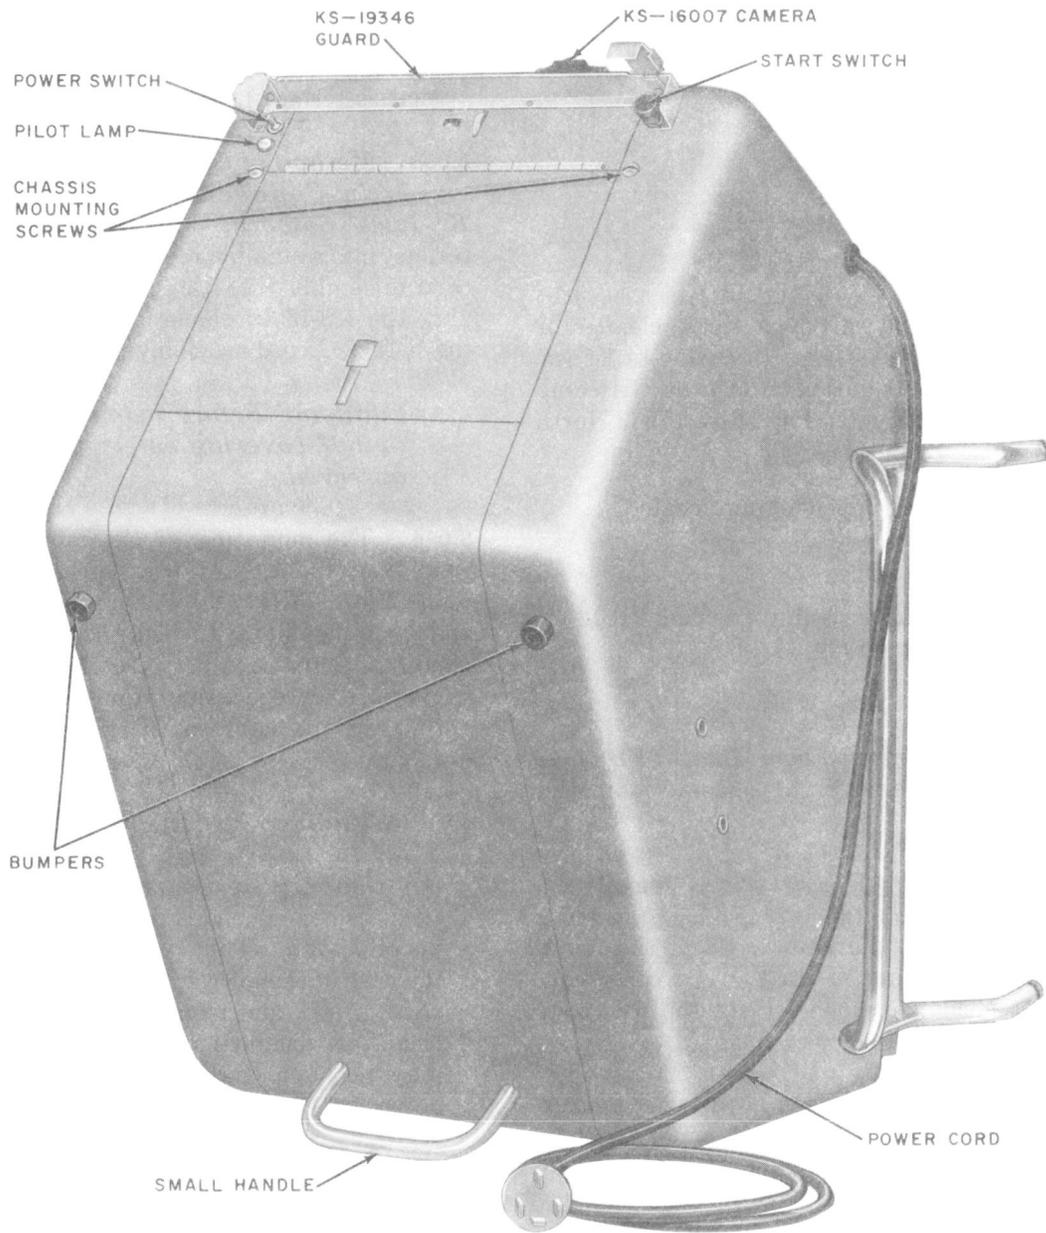

Fig. 10—KS-14776 Camera—General View
- (1) Using the 5-inch E screwdriver, remove the two screws mounting the KS-16007 camera on the hood. Lift the camera from the hood, and remove the plug on the camera cord from the socket inside the hood. Place the KS-16007 camera where it will not be damaged.
- (2) Protect the mirror in the hood from damage by placing several layers of paper or cloth over it.
- (3) Remove the knob from the START switch plunger by pulling outward on it.
- (4) Using the 4-inch E screwdriver, remove the two chassis mounting screws and associated nuts and lockwashers at the front of the hood (Fig. 10). While holding the chassis in position, remove the two chassis mounting screws and associated nuts and washers at the top of the hood (Fig. 6). Gradually lower the chassis while pushing the power cord into the hood, and then remove the chassis from the hood. If it is desired to completely disassociate the chassis from the hood, disconnect the power cord from